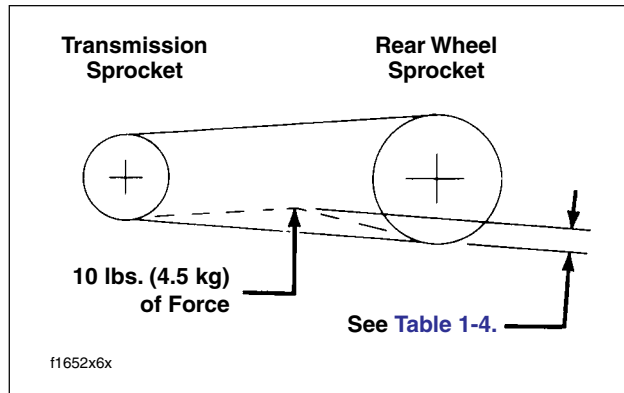

Figure 1-12. Check and Adjust Belt Deflection
2. Check deflection at the tightest spot in the belt with the transmission in neutral and the motorcycle cold. Use the BELT TENSION GAUGE (Part No. HD-35381) to apply 10 lbs. (4.5 kg) of force at the midpoint of the bottom belt strand. See Figure 1-12. Belt deflection should be within the range specified in Table 1-4.